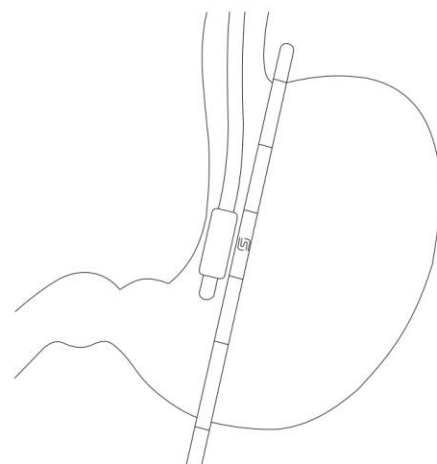

Figure 1. Titan SGS™ stapler placed lateral to Standard Bougie™ SB38
**Step 8** – Place the Titan SGS™ stapler lateral to the Standard Bougie™ SB38, reference Figure 1. Ensure the Standard Bougie™ SB38 remains in the desired position while the surgical stapler is placed. Use of the Standard Bougie™ SB38 with the Titan SGS™ stapler results in a 40Fr sleeve diameter. Once the Titan SGS™ stapler is placed, ensure the Standard Bougie™ SB38 is freely mobile within the stomach.